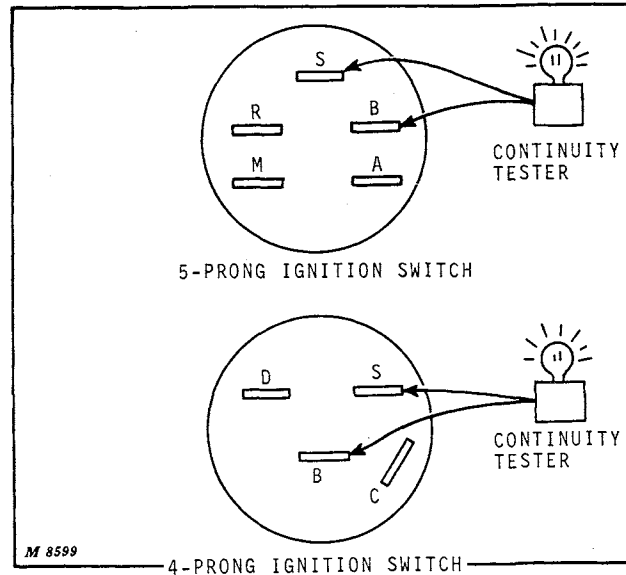

Fig. 16-Testing Key Ignition Switch
1. Connect a continuity tester (with its own power supply) between battery and solenoid terminals as shown in Figure 16.
Charging the battery will increase battery temperature and raise the electrolyte level. If electrolyte is still below the ring in the battery neck, add enough electrolyte to fill to the bottom of the ring. See Figure 16 on the next page.